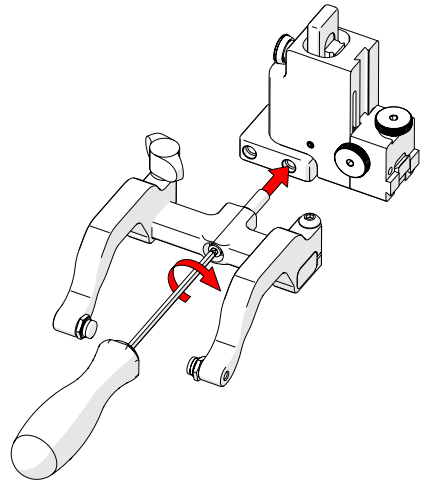

Fig. 185 - Screw into threaded hole
7. Screw the yoke to the probe holder (Fig. 185).